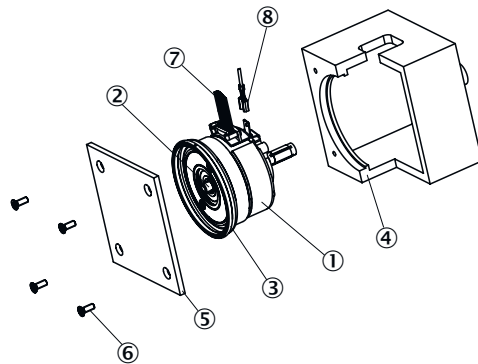

Figure 1: Motor feedback system with plug-in shaft and rubber support
6 Motor feedback system with plug-in shaft and rubber support (Fig. 1)
6.1 Motor Feedback System with Plug-in Shaft and Rubber Support (Fig. 1)